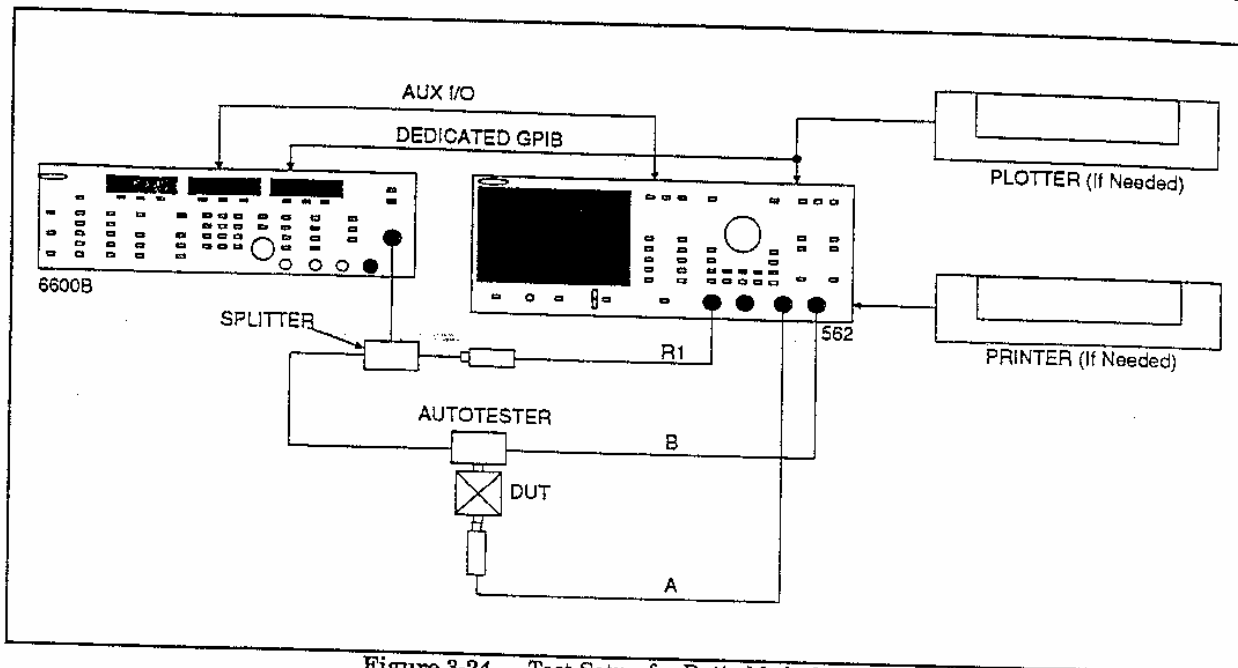

Figure 3-24. Test Setup for Ratio Mode Setup
1. Connect test equipment per Figure 3-24, except do not connect the test device. Turn the printer (or plotter) on.
4. On the 562, press the CALIBRATION key and follow the directions given in the calibration-cycle sequence of menus. If necessary, refer to Figure 3-10 for an explanation of the menus. After finishing the calibration, connect the test device and RF detector as shown in Figure 3-24.